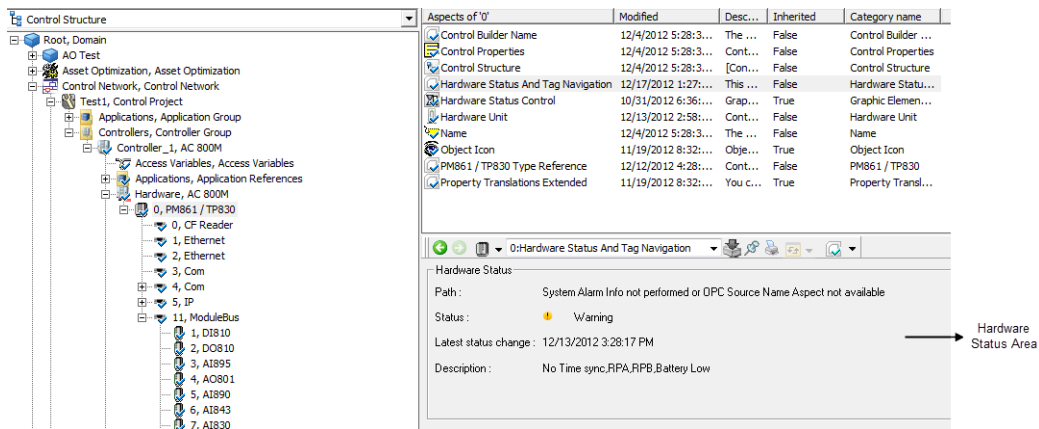
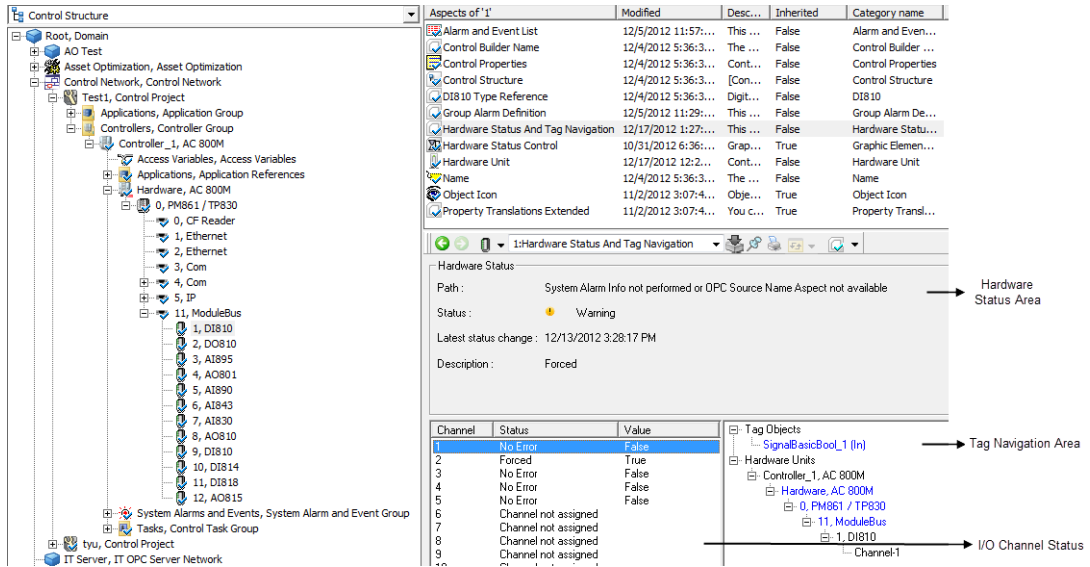

Figure 24. Hardware Status Window for a Hardware/Controller
Figure 25. Hardware Status and Tag Navigation Window for an I/O module
- **Hardware Status**, shows the errors and warnings for each hardware unit in a control project and additional information for I/O. Refer to Figure 24 and Figure 25.
- **Tag Navigation**, shows the associated tags information for I/O. Refer to Figure 24 and Figure 25.